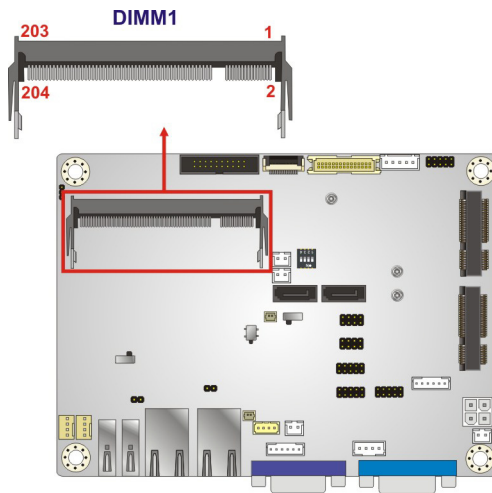

Figure 3-7: DDR3L SO-DIMM Slot Location
- CN Location: See **Figure 3-7**